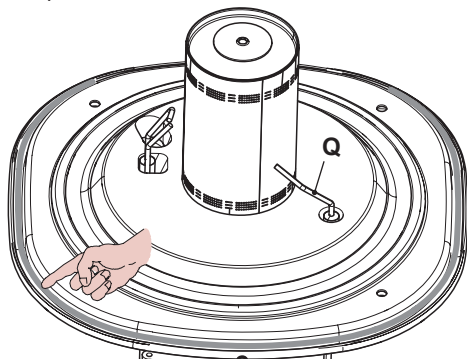
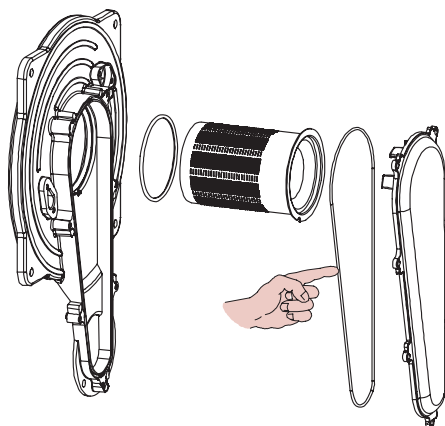

Fig. 10.14
Fig. 10.15
- The silicon seal on the front wall of the combustion chamber Fig. 10.14 and the seal on the air/gas pipe cover (Fig. 10.15) must be replaced if worn.
- The detection electrode **Q** in Fig. 10.14 also functions as a sensor for the correct drainage of the condensate. Should the mentioned electrode come into contact with the condensate water present within the combustion chamber it sends the boiler into safety lockout. Therefore, should the insulation be wet or deteriorated, provide for the substitution of the same.
Caution: After any periodical servicing or disturbance the combustion chamber silicon seal Fig. 10.14 and the Air-gas duct gasket (Fig. 10.15) must be fully inspected and replaced at the discretion of the service engineer.